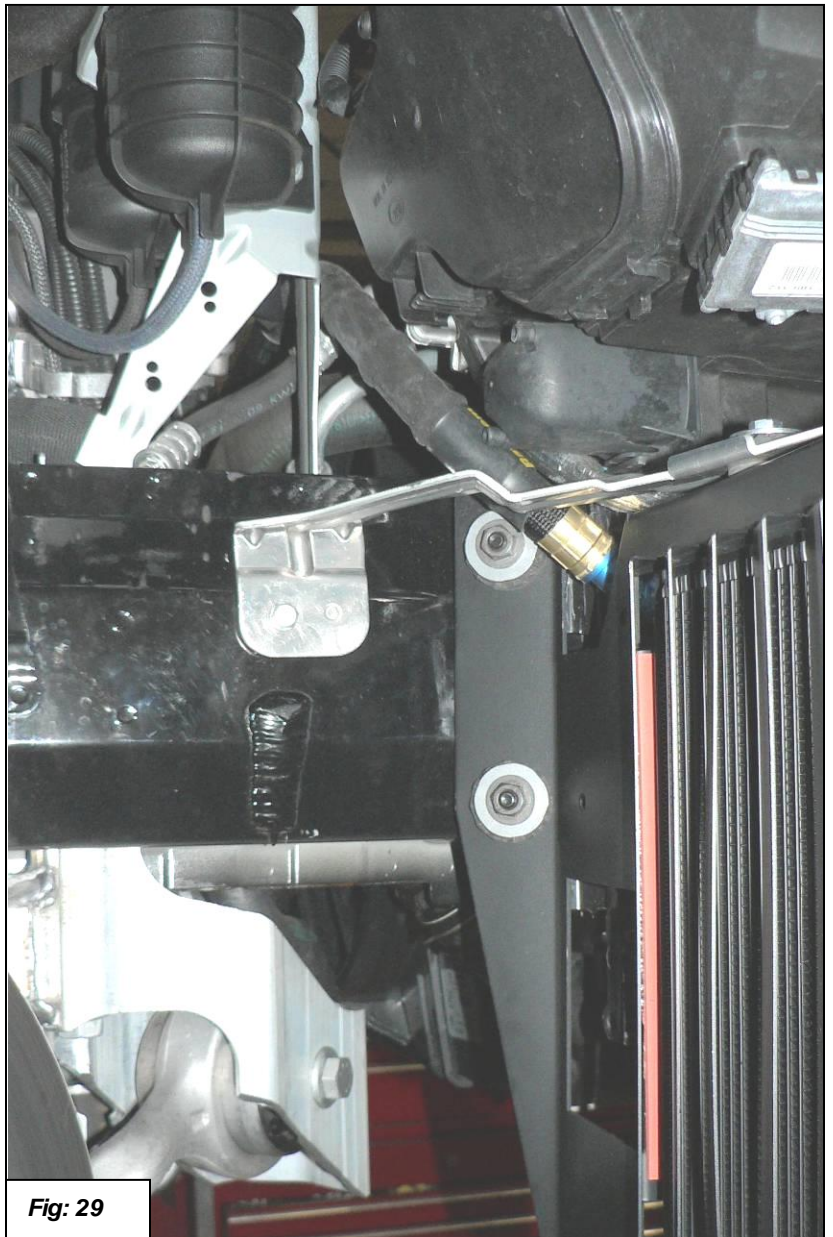

Fig: 29
29. Feed the oil line in between the headlight and the bracket as shown in figure 23. Attach the oil cooler assembly to the mounts as shown with the two stock 8mm nuts and the 6mm bolt. Torque nuts to 20Nm (15ft-lbs.) and bolt to 8Nm (6ft-lbs.). See figure 29.